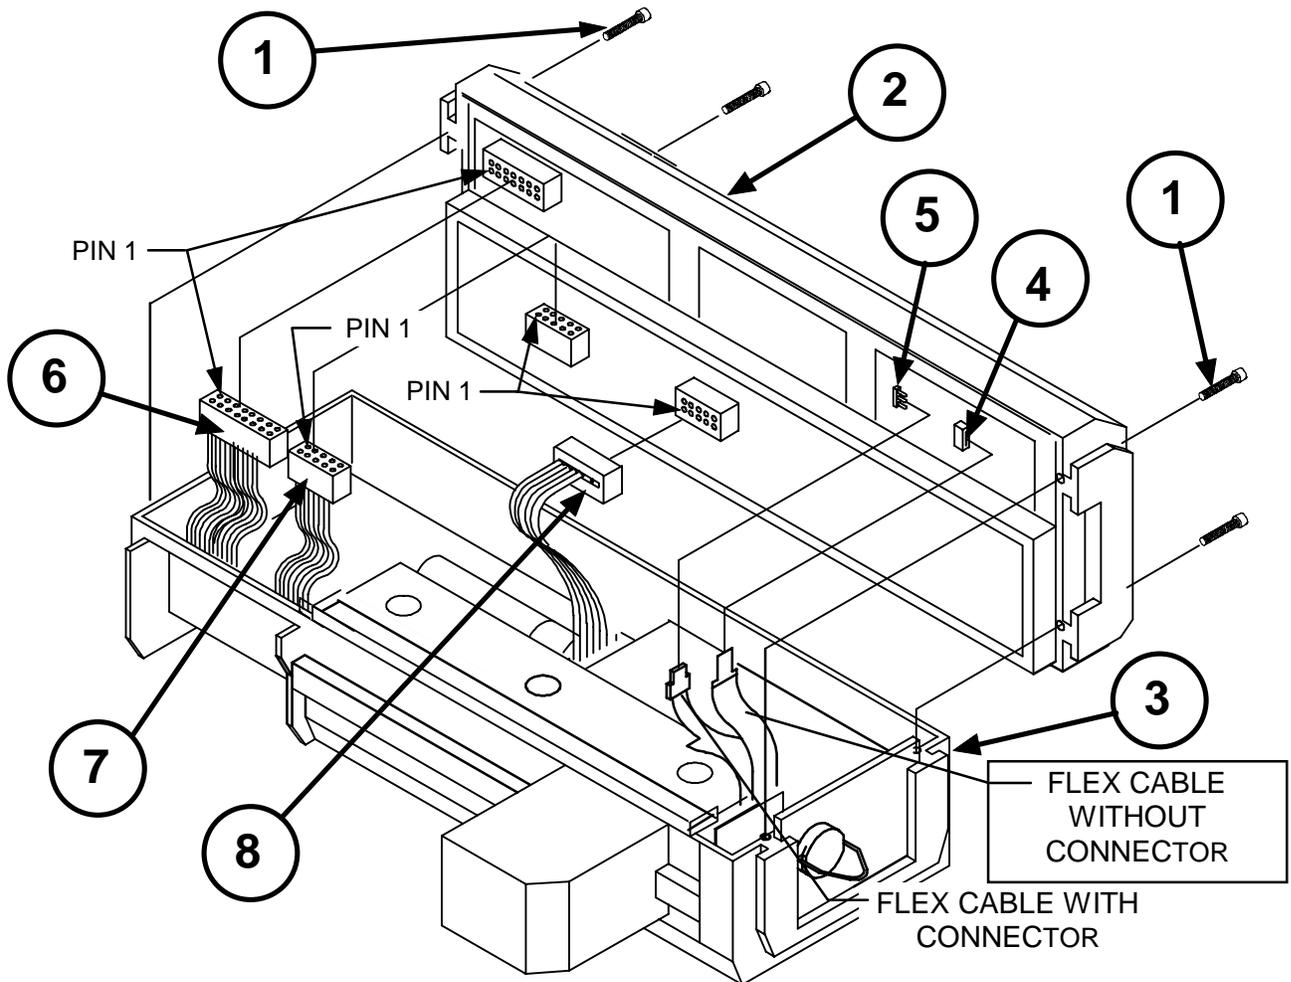

Figure 7-8 Cover and Case Assemblies
**7.2.5 Cover and Case Assemblies (refer to Figures 7-8 and 7-9)****CAUTION**